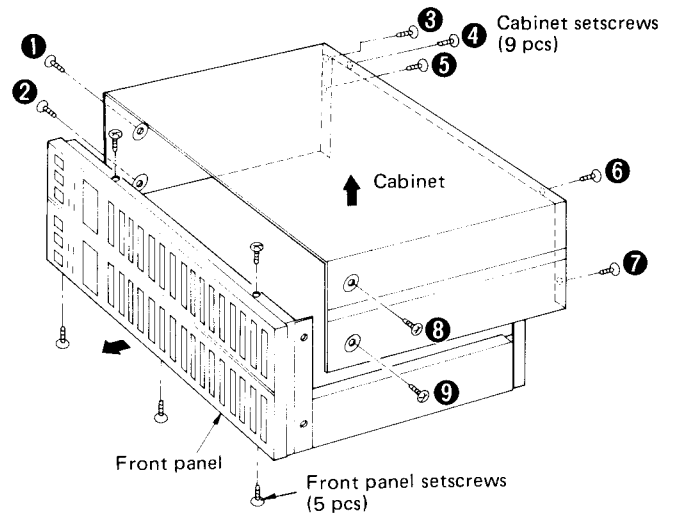

Fig. 1
1. Remove setscrews ① ~ ⑨ in Fig. 1 to remove the cabinet.
2. Remove 5 setscrews of the front panel (Fig. 1).